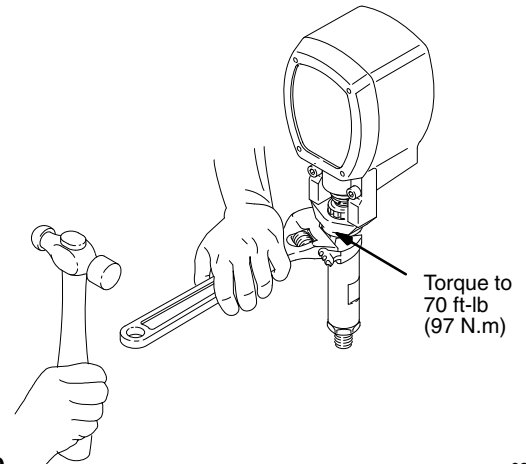

Fig. 39
4. Tighten the locknut (38) to 70 ft-lb (97 N.m). See Fig. 39.